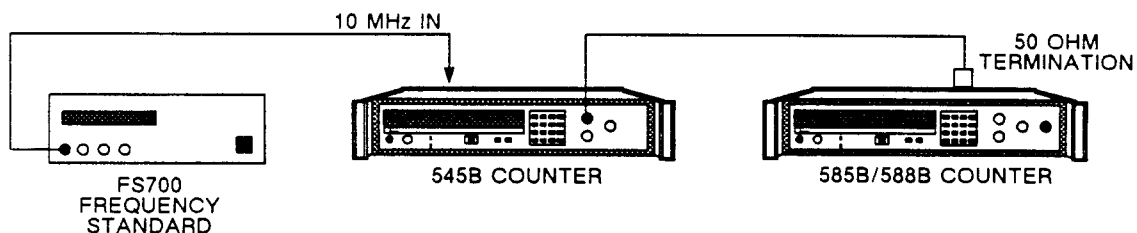

Figure 7-3. Time Base Calibration Setup.
1. Set up equipment as shown in Figure 7-3 and described below.